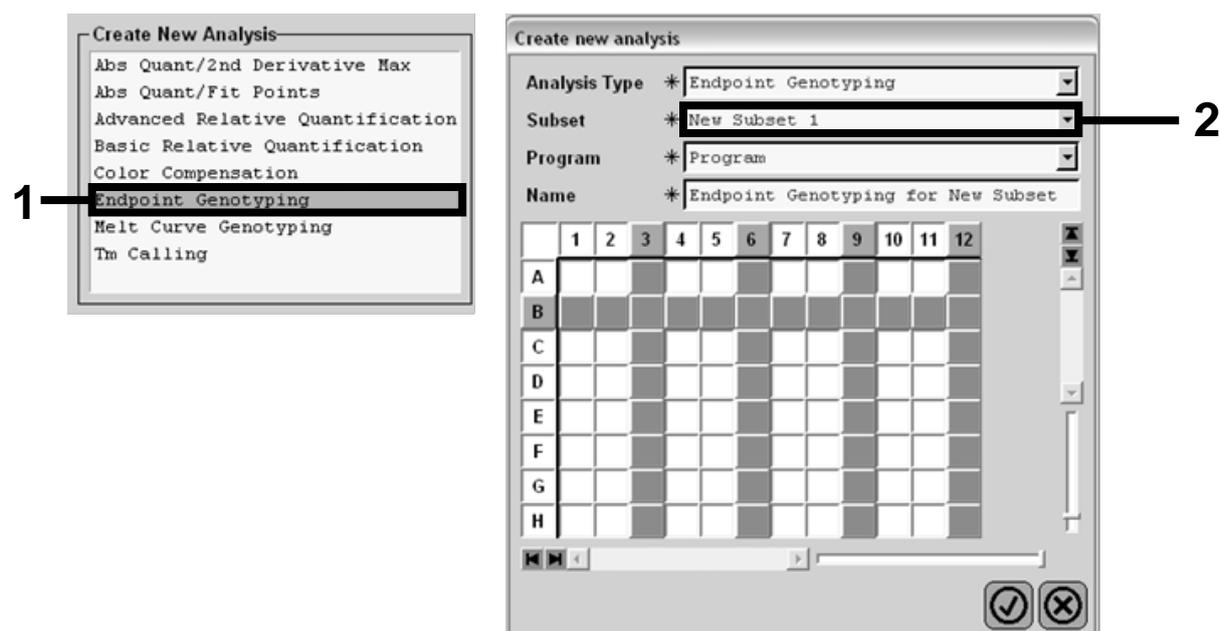

Figure 23. Selecting analysis type and subset to analyze.
14. In the “Create New Analysis” dialog box, select “Endpoint Genotyping”, and then select the subset to analyze in the “Subset” menu (Figure 23).